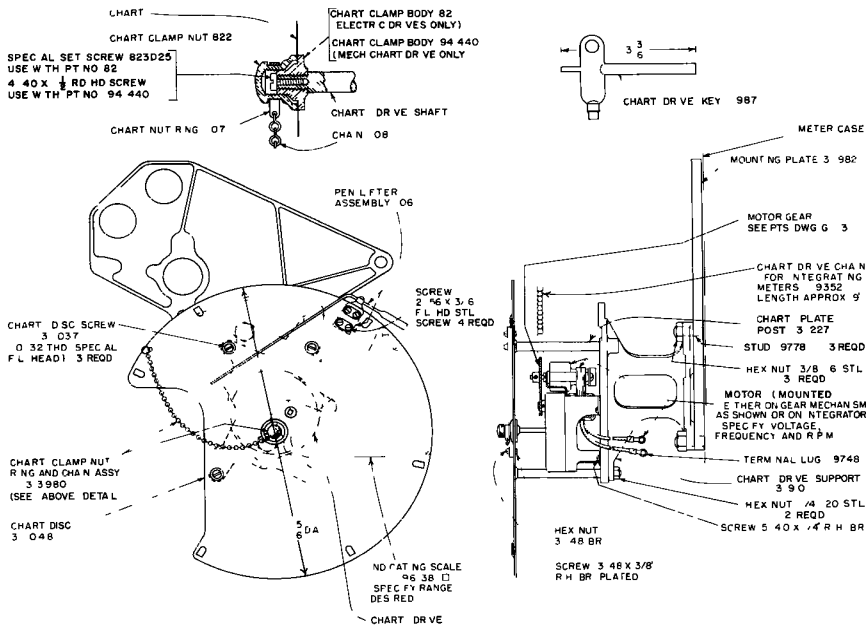

FIGURE 9 Parts Drawing G92 35, Chart Plate and Chart Drive
1. Remove chart clamp nut (Figure 9) and raise pen lifter.